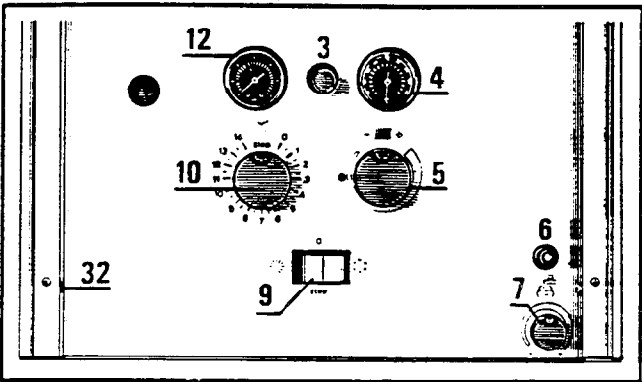

Fig. 18
- With the left hand push in the pilot button (3) (fig. 18). With the other hand push the ignitor button (6) (fig. 18). When the pilot light is established hold the pilot button pushed in for 30 seconds.
- Switch the main electric switch (9) (fig. 18) to start the pump. The firing of the main burner is initiated by the starting of the pump.
Your boiler is designed to give hot water at a temperature of 60° C. with the temperature selector on +, (7) (fig. 18), when a tap is turned on. The maximum flow rate will be : 6 l/min (1.32 gpm) for the 2.20 RSc unit and 8 l/min (1.75 gpm) for the 2.24 RSc unit. It is possible to obtain higher water volumes at lower temperature - to fill a bath for example, turn the temperature selector to the sign - and open the bath tap fully.
Set the boiler thermostat 5 (fig. 18) on the boiler as a function of the external temperature and the required internal temperature.
- In cold weather the boiler thermostat (5) (fig. 18) can be left in the position +.
- Put the control switch (9) (fig. 18) to the summer position « ☉ ». The boiler will now operate only on hot water demand.
- If the pressure on the pressure gauge (12) (fig. 18), falls below 1 bar when cold re-pressurise the installation as follows.
- When pressure is about 1.5 bar (12) (fig. 18) close the fill valve.
### To remove the cover (fig. 18)